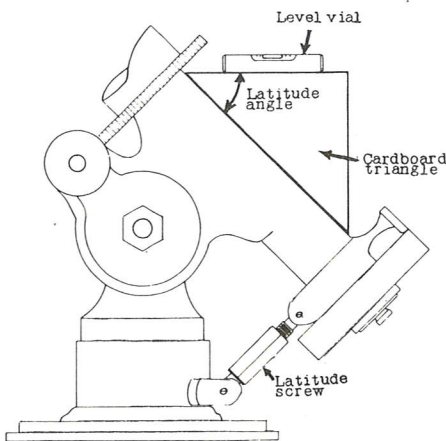

Fig. 7
- 3) LATITUDE ADJUSTMENT: The polar axis (1-9) must be inclined to the horizontal plane at an angle equal to the observer's latitude. Your latitude can be determined with sufficient accuracy from any good atlas or topographic map. Cut a triangle out of a piece of cardboard with one angle equal to your latitude. Position the triangle on the polar axis, as shown in Fig. 7 and place the hand level on the upper edge of the cardboard. Turn the latitude screw (1-18) until the hand level bubble is centered. The cardboard triangle can be eliminated if a direct angle reading level is used. Caution: Do not loosen or tighten the trunnion nuts (1-23) during this adjustment as these are adjusted at the factory. Over-tightening these will result in damage to the main gears of the mounting. The latitude adjustment is permanent as long as the observer's location remains the same or the latitude screw is not disturbed.